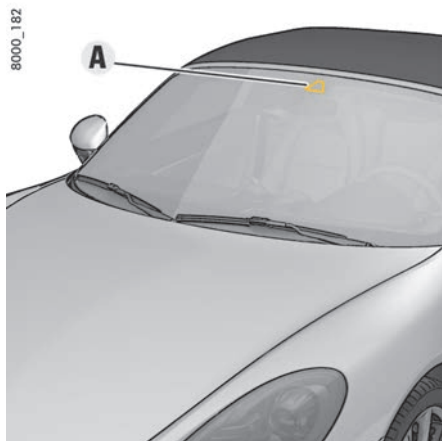

Fig. 198: Camera position
- ▶ Do not cover the camera area on the interior mirror (Fig. 198) with objects (e.g. stickers).